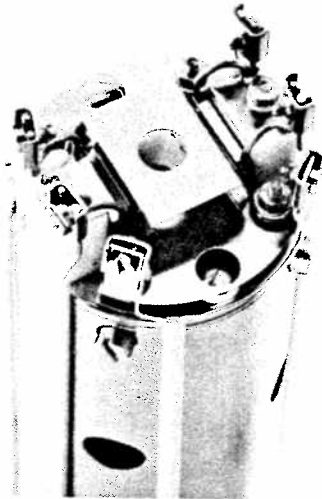

Fig. 5.1.2.
2. Connect one wire each to machine screw terminals (3, 4, 5) of the ion source as shown in Fig. 5.1.2. While tightening the screws (3,4,5), U-washer (6) must be held securely by the jaws of suitable pliers.
4. The cathodes assembly has to be installed exactly parallel to formation chamber electrode (FR); any misalignment should be corrected at once.